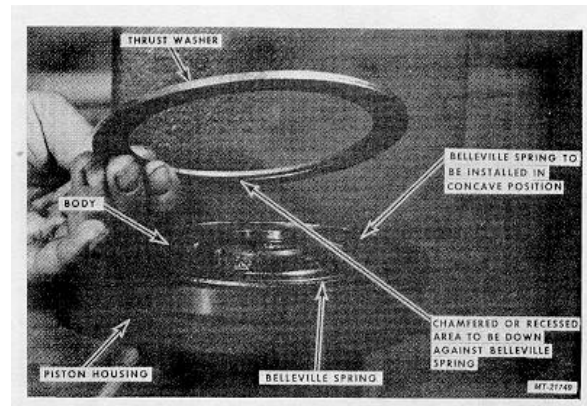

Fig. 57
20. Install Belleville Spring on the Body in the concave position (middle down and outside diameter up), Fig. 57.